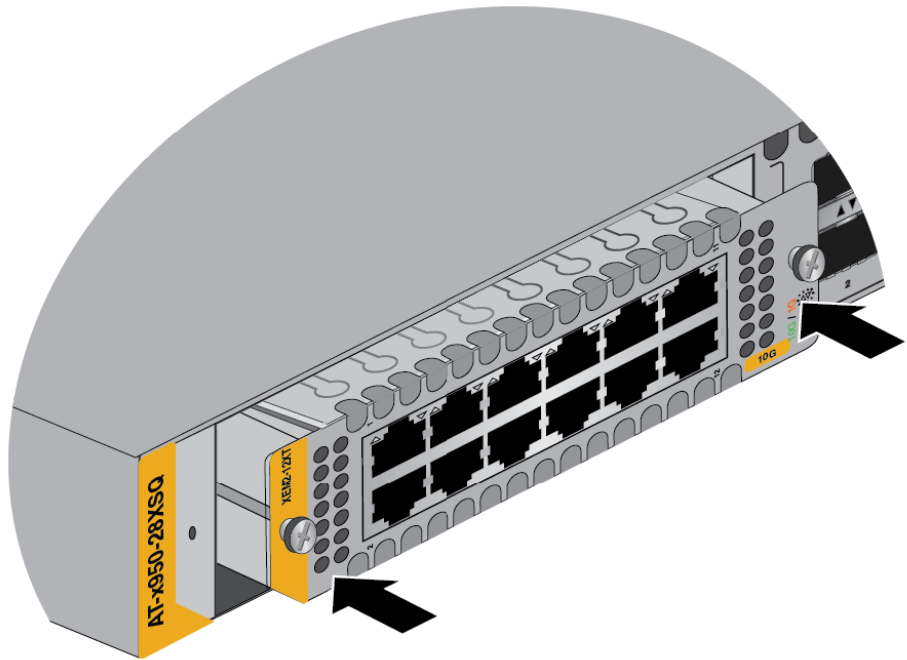

Figure 76. Seating the Ethernet Line Card in the Expansion Slot
4. When the line card makes contact with the internal connector in the switch, gently press on the sides of its faceplate to seat it on the connector. Refer to Figure 76.